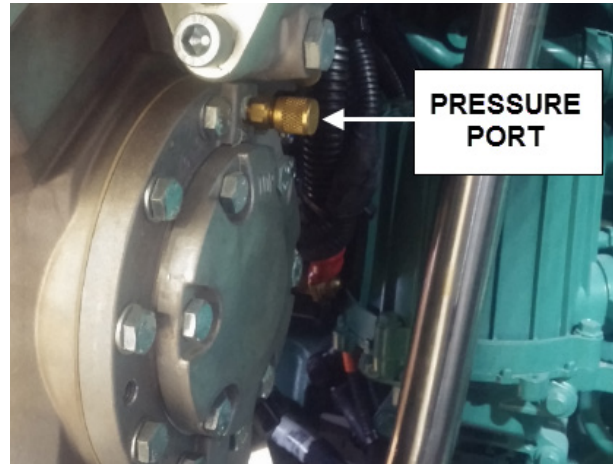

FIGURE 57: OIL PUMP CONNECTION (BACK OF THE COMPRESSOR)
- Connect the pump to the pressure port at the back of the compressor (figure 57).